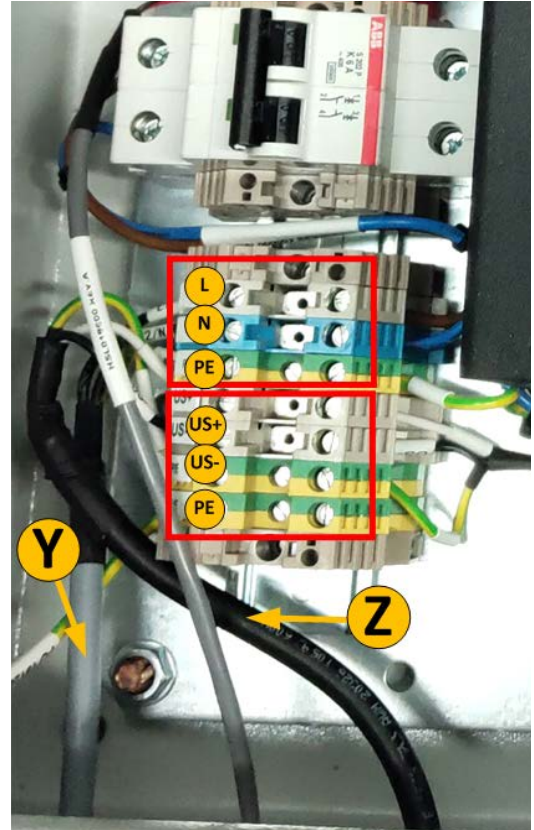

Figure 5-36: Ultrasonic Cleaner Module Terminals
- Step 2.** Connect the Ultrasonic Cleaner **(Z)** cable's White wire to the **US+** port on the Ultrasonic Cleaner Module terminal in Figure 5-36.
- Step 3.** Connect the Ultrasonic Cleaner cable's Black wire to the **US-** port on the Ultrasonic Cleaner Module terminal in Figure 5-36 to the right.